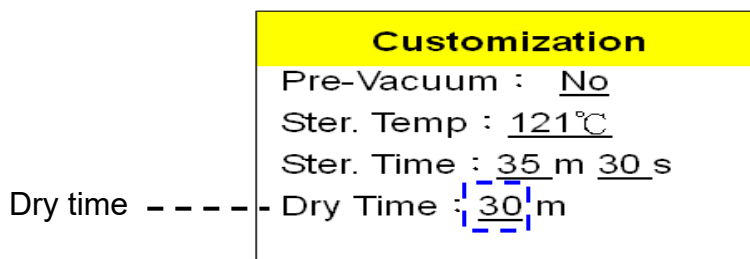

Figure 78
- H. Press  or  button to move the cursor as shown in Figure 78
- Press  button to store dry time parameter as shown in Figure 78.